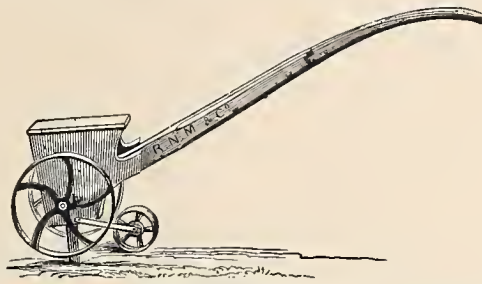

Fig. 334. — Seed-Sower, No. 0.
**Seed-Sower, No. 0**, shown by *Fig. 334*, is a small hand-drill with brush cylinder, and is a cheap, light sower, well adapted to the wants of those who cultivate